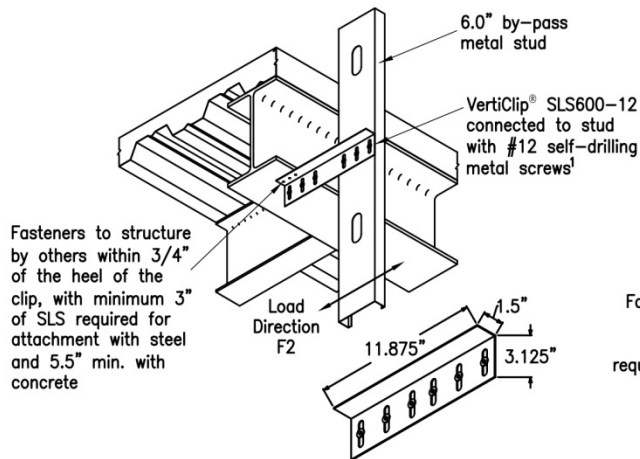

Figure 3 – VertiClip® SLS600-12
3.1.4 VertiClip® SLS: The VertiClip® SLS600–12 is an L-shaped angle that connects 6 inch deep (152 mm) exterior curtain walls to a building's structural steel spandrel beam or structural concrete floor slab, while allowing for a maximum of $1\frac{1}{2}$ inches (38 mm) of vertical movement between exterior wall elements and the primary structure. The minimum base-metal thickness of the clip is 0.0677 inch (1.7 mm). The designation “–12”, following the model number SLS600, represents the total length, in inches, of the connector. The end of the connector that is attached to the curtain wall framing members has two or three vertical slots, each $\frac{3}{8}$ inch (9.5 mm) wide by $1\frac{7}{8}$ inches (47.6 mm) long. Refer to Figure 3 for overall dimensions of the VertiClip SLS600–12 connector and a typical installation detail.